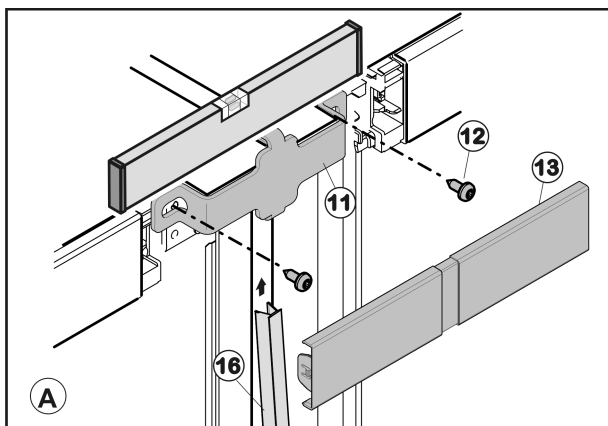

Fig. 46
- Secure upperconnecting element Fig. 46 (11) using two screws Fig. 46 (12). Make preliminary holes (optional) or use a cordless screwdriver.
- Clip on cover panel Fig. 46 (13).
- Fit strip Fig. 46 (16), push it slightly under the top cover Fig. 46 (13) and then press it downwards into the gap.